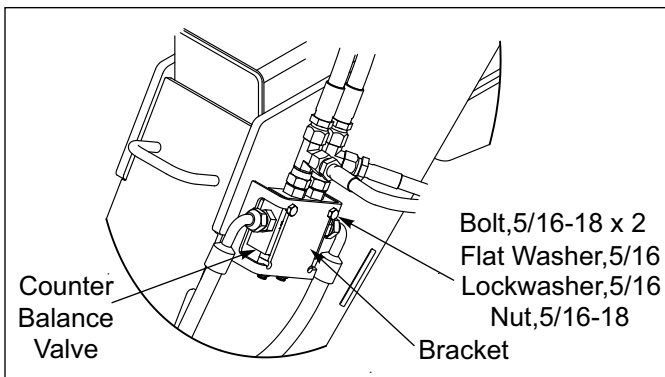

Figure 2-12: Counter Balance Valve
4. Attach Counterbalance Valve to inside of Frame Bracket with 5/16-18 x 2 Bolt, Flat Washer, Lock Washer and Nut. See Figures 2-12 and 2-13.